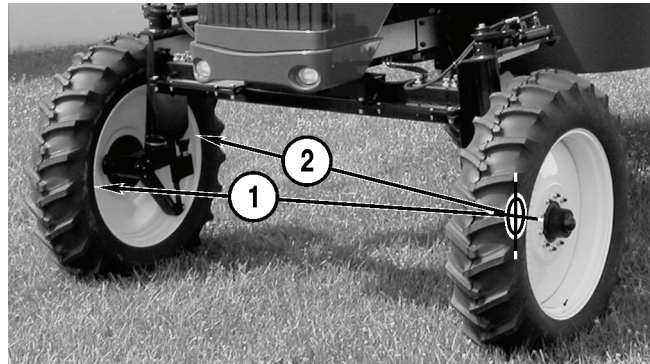

Figure 5-57
3. Measure and note the distance (**Figure 5-57, 1**) from the center of the left hub to the front of the right rim.
4. Measure and note the distance (**Figure 5-57, 2**) from the center of the left hub to the rear of the right rim.
If distance (**Figure 5-57, 1**) is 0.250 in. (6.35 mm) less than distance (**Figure 5-57, 2**), the toe-in is correct for the right wheel. If the toe-in is not correct, it must be adjusted.